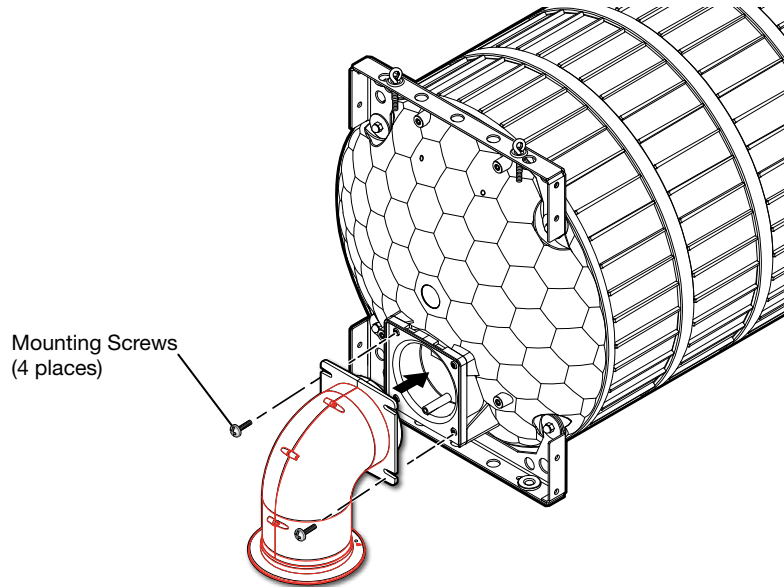

Figure 7. Installing the Port Tube
1. Orient the port tube so that it is pointed into the listening space (see figure 7).